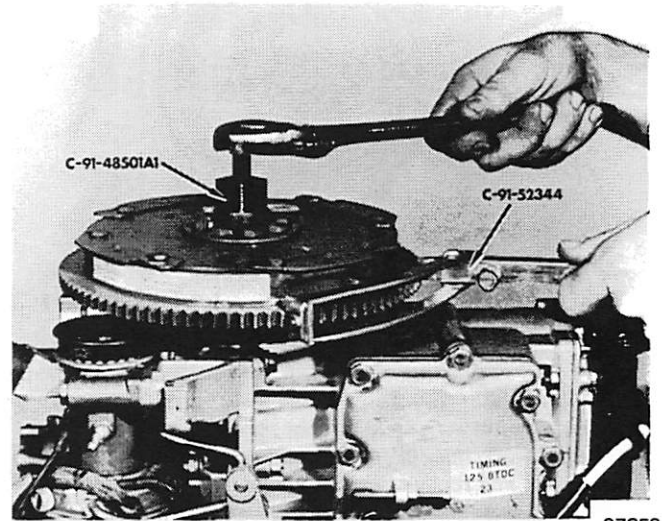

Figure 2. Removing Flywheel
4. Remove flywheel with Flywheel Puller (C-91-48501A1) and Flywheel Holder (C-91-52344). (Figure 2)